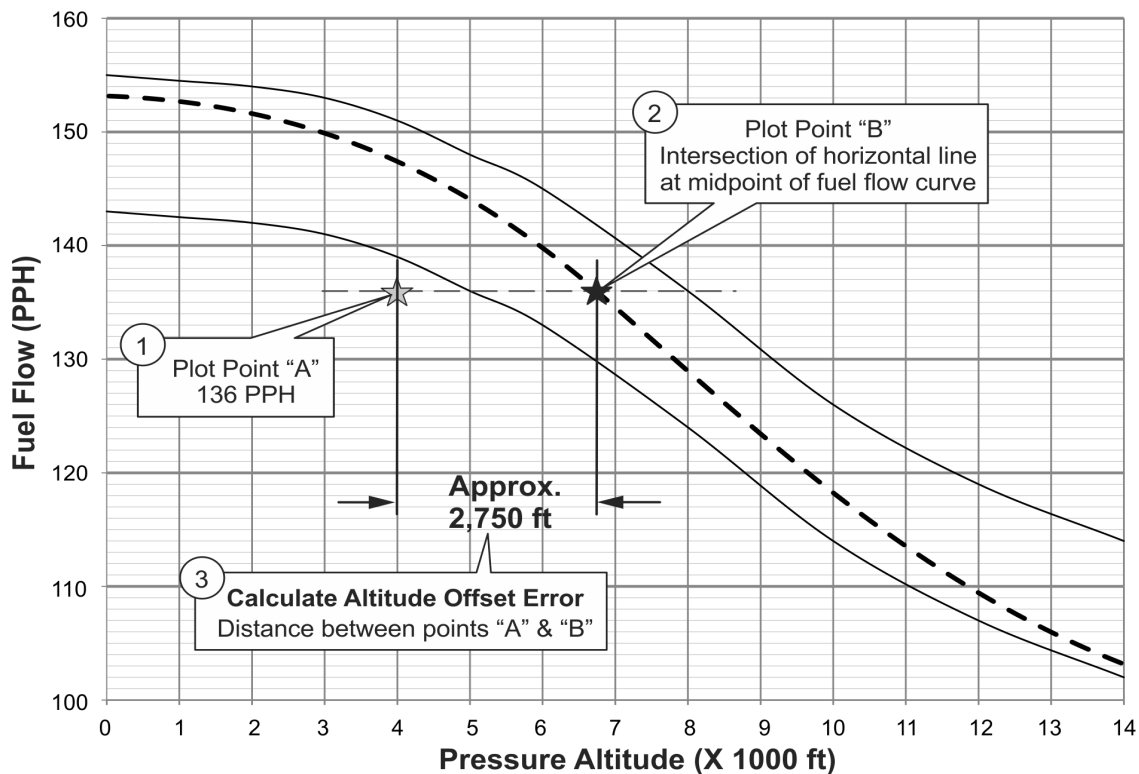

Figure 3. Calculating Altitude Offset Error (example only)
- b. For all IO550-D, E, F, & L Altitude Leaning Schedules refer to Figure 4. Adjustment of the aneroid adjustment screw clockwise will decrease the altitude (moves horizontally to the left on the chart) while counterclockwise adjustment will increase the altitude (moves horizontally to the right on the chart) at a given pressure altitude. Adjustments made to the adjustable orifice (see Figure 8) will correct the chart fuel flow output vertically (see Figure 3).
- b. Plot your initial reference as Point A (Pressure Altitude 4000 ft, Fuel Flow 136 PPH, see Figure 3, bullet point 1).
- c. Draw a single horizontal line directly through Point “A” and both fuel flow curves (see Figure 3, bullet point 2). Plot the intersection of the horizontal line at the midpoint of the fuel flow curve as the new reference coordinate, Point “B”).